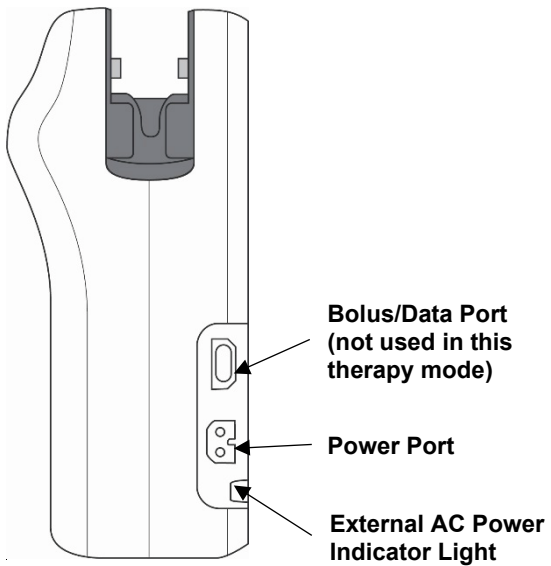

Figure 3: Left Side View
1. Connect the AC power cord connector to the port labeled **POWER** on the left side of the CURLIN 8000 (Figure 3).